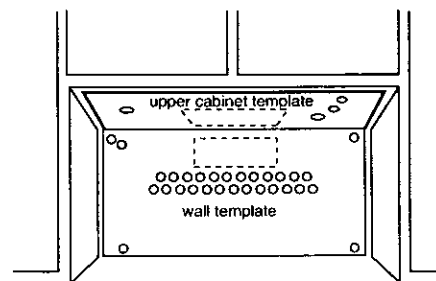

Figure 22
4. Securely tape or tack the wall template to the wall. See Figure 22.
5. Measure the bottom of the upper cabinet frame. Trim the edges **A**, **B** and **C** on the upper cabinet template so that the template will fit on the bottom of the upper cabinet. If upper cabinet has a recessed frame, trim the template so it fits inside the recessed area. Align the centerline of the upper cabinet template with the centerline of the wall template, then securely tape or tack the upper cabinet template in place. See Figure 22.